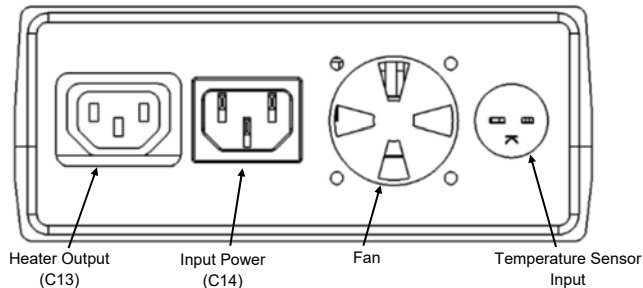

Figure 1
3. Connect the input power supply cord to the controller's input power receptacle (see Figure 1).
8. Connect the heater's power cord to the temperature controller's heater output receptacle (see Figure 1).